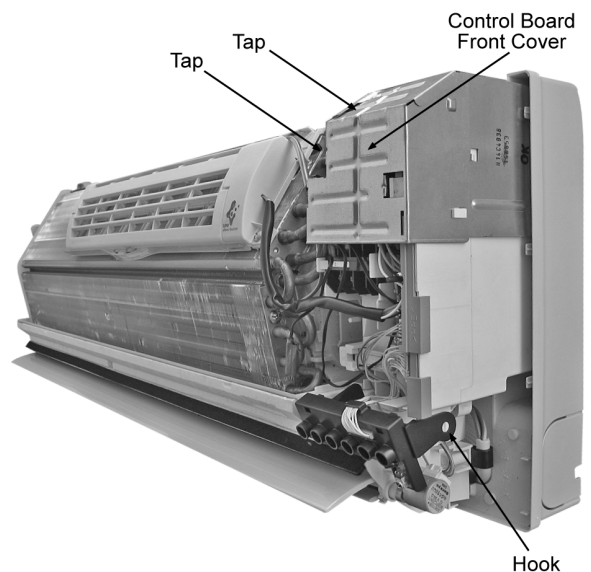

Fig. 3
- Release the taps on the top and on the right side of Control Board Front Cover. (Fig. 3)
- Then remove the Control Board Front Cover. (Fig. 3)
- Remove the Indicator Complete. (Fig. 3)